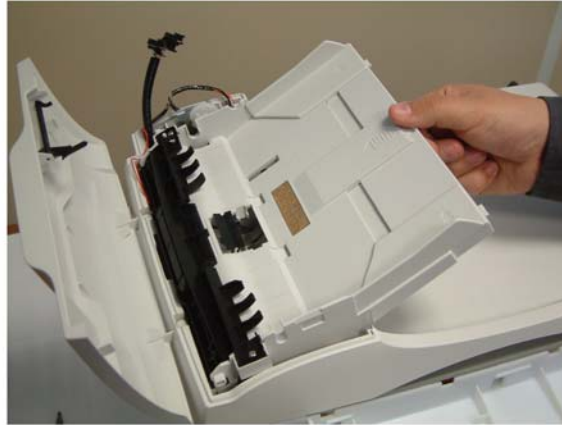

Figure 4
2. Lift the document feed assembly and remove it from its slot without disassembling it, Figure 4.